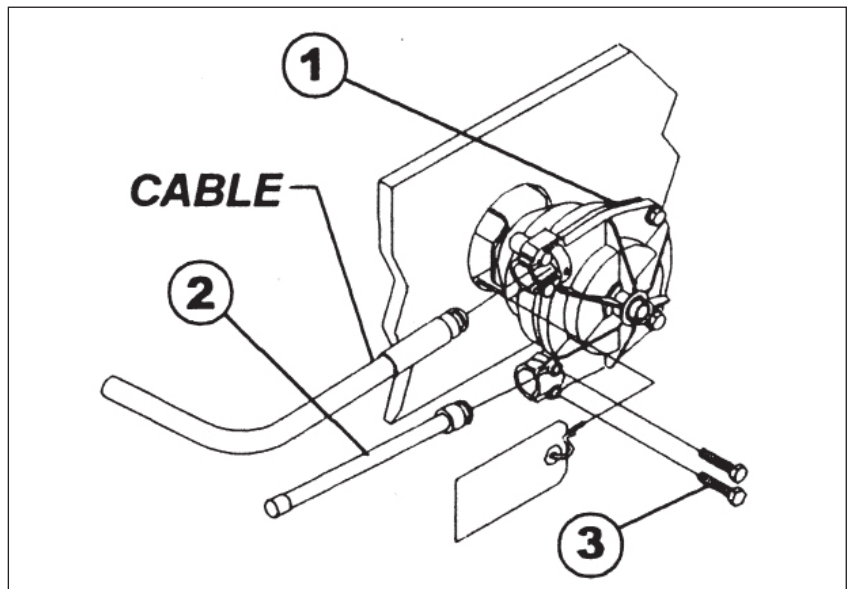

Figure 2.
STEP 2. Remove protective sleeve from cable end, making sure that dirt does not get onto the lubricated cable end. Feed cable end into the **UPPER** Helm entry spigot until it contacts the internal gear, then turn the steering wheel counterclockwise to draw the cable fully into the helm, (see figure 2). Continue turning the steering wheel until the end fitting of the cable is fully inserted into the entry spigot, and wheel cannot be turned further. During this you should hear a click as the locking mechanism engages. Turn steering wheel fully in the other direction until it cannot be turned any further, and check that cable end fitting is retained inside the entry spigot.
STEP 5. Feed the Spent Travel Tube (Item 2) over the exposed cable end and insert bolts (Item 3) into the helm, tighten fully. See Figure 2.